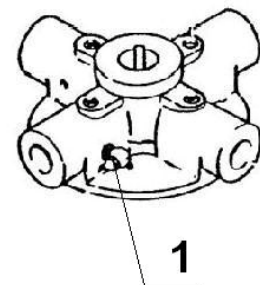

Fig. 6
Before starting the machine daily, lubricate the cross with a grease gun (item 1 fig. 6).